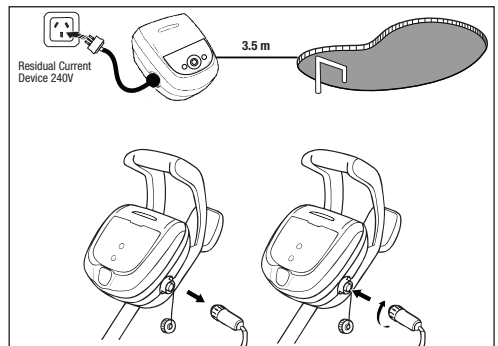

Figure 3. Connect/Disconnect the Floating Cable
2. Grip the notched end of the floating power cable, insert into the control unit, and turn clockwise to tighten (Figure 3).